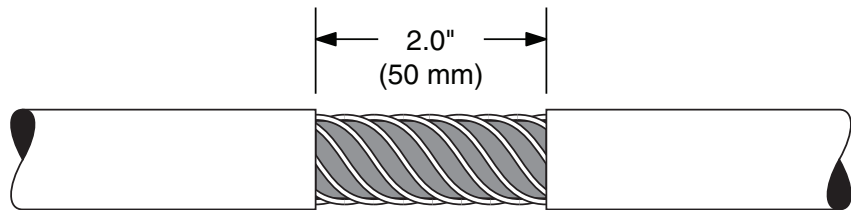

Figure 1
1. Remove 2 inches (50 mm) of cable jacket to expose neutral wires where ground connection is to be attached. (Figure 1)